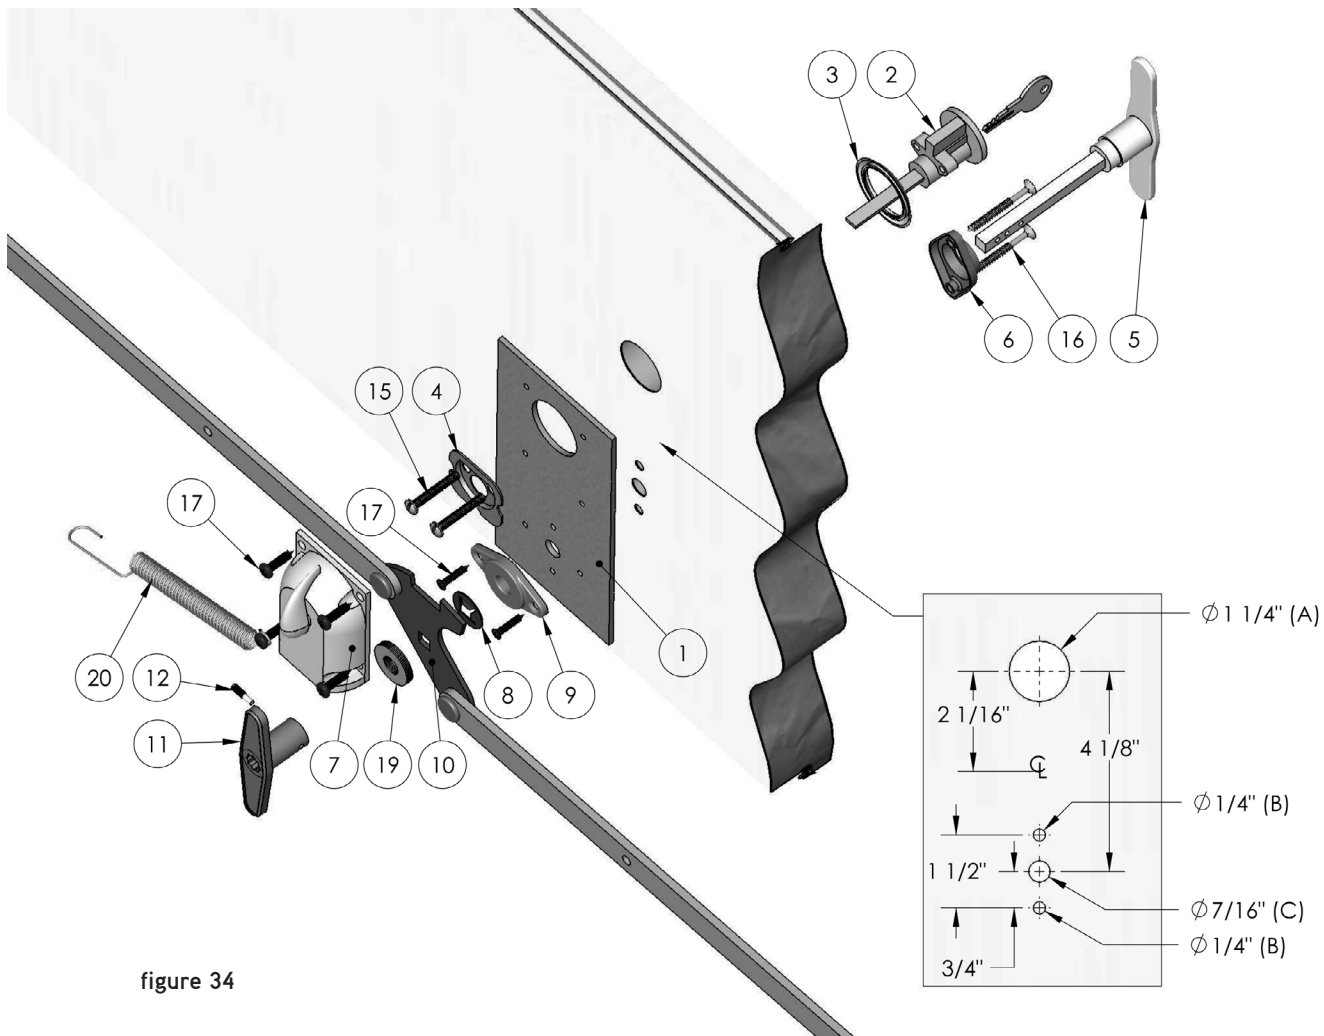

figure 34
2. Using figure 34 as a reference, mark the location of the four holes on the panel for A (barrel), B (screws) and C (handle);
4. Slide the exterior barrel (2) and trim ring (3) into hole (A). (The teeth of the key must be facing up and the key hole must be at the bottom of the barrel);
5. Position the steel plate (1) on the inside of the panel;
6. From the inside of the panel, insert plate (4) in hole (A) by positioning the round part downwards;
7. Insert 10 x 1 ½" screws (15) in plate (4), align the screws in the holes of the outside barrel (2) and tighten the screws (make sure the plate is well aligned);
8. Insert the inside lock (7) in the shaft of the outside barrel (2) and fasten it to the steel plate (1) with four ¾" screws (17) using a square head screw driver; Be sure to insert the bottom left screw in the round end of the return spring (20) before installing;
9. From the inside of the panel secure the plate (9) over hole (C) with two ¾" screws (17);
10. Insert outside handle (5) in trim plate (6) and insert through hole (C);
11. Insert both 2 ¼" screws (16) through holes (B), align them in the steel plate holes and tighten;